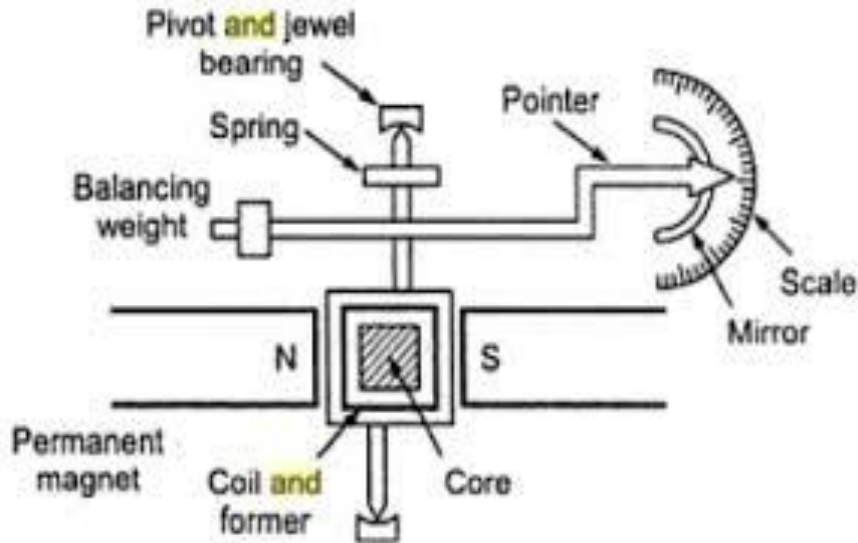

Fig.4.6
(C) Moving Coil : A coil of many turns of enameled or silk covered copper wire is wound on light aluminum frame. This coil can move freely between the poles and iron core. The coil provides electro magnetic damping. The moving coil assembly is mounded on a pivoted spindle as shown in the fig.4.6.